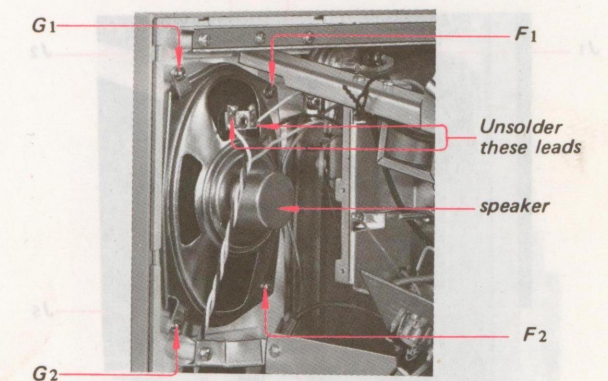

Fig. 2-10. Speaker removal
3. Remove the two screws labeled F1-2 and loosen the two screws labeled G1-2 in Fig. 2-10.